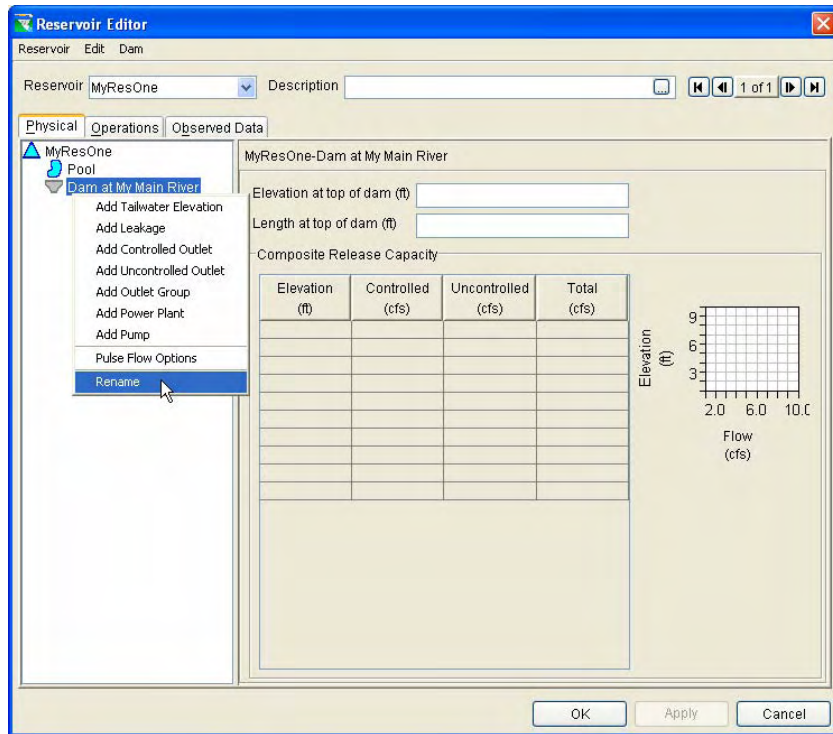

Figure 20 – Reservoir Editor, Rename Dam
- Enter Dam Properties.** Click on **Dam** in the reservoir tree. The data area to the right of the reservoir tree will change to allow you to enter the data needed to define the dam [Sections 10.5 and 10.6]. Before proceeding, take a look at the name of the dam. The name is probably something like “Dam at My Main River.” This is the default name the program gives to the dam. It identifies the dam based on the name of the underlying stream upon which the dam was placed. This enables the program to uniquely identify more than one dam within a reservoir. It is a rare case when a reservoir has more than one dam, so feel free to rename the dam by right-clicking on the dam name and selecting **Rename** (as shown in Figure 20). One suggestion is to name it *Dam* by removing the stream name. Another possibility is to name the dam by its actual name (many reservoirs have a name for the pool and a different name for the dam; ResSim provides the ability to name each part individually).
- **Add Outlets.** Physical **Outlets** can be added to the Dam by right-clicking on the **Dam**. Figure 20 illustrates the dam’s shortcut menu. Select **Controlled Outlet** to add a gate or other control structure to the dam [Sections 10.8 and 10.16]. You can rename the outlet by right-clicking on the outlet and selecting **Rename**.